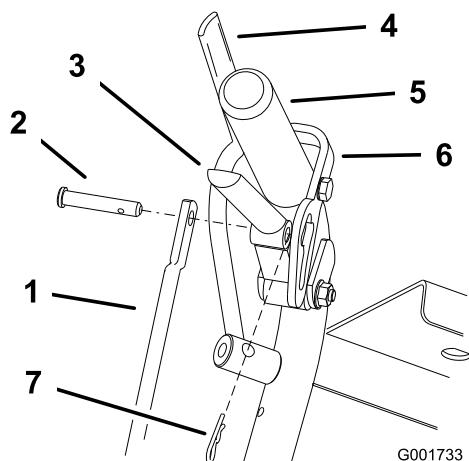

Figure 22
1. Remove the hairpin cotter pins and clevis pins from the drive levers and neutral locks (Figure 22).
6. Install hairpin cotter between drive levers and neutral locks and into clevis pins (Figure 22).